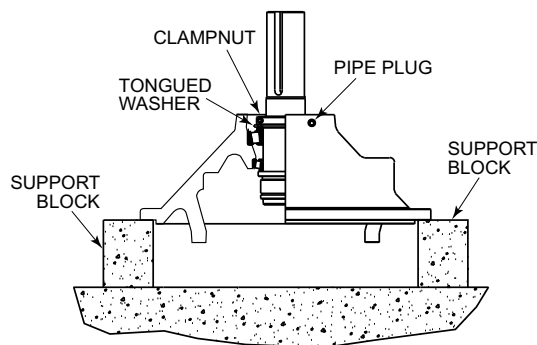

Figure 6.3.3.1A — Neptune and Neptune Plus Input Shaft Assembly
3. Support hub to expose the outboard side of the endbell; reference Figure 6.3.3.1A and Figure 6.3.3.1B.